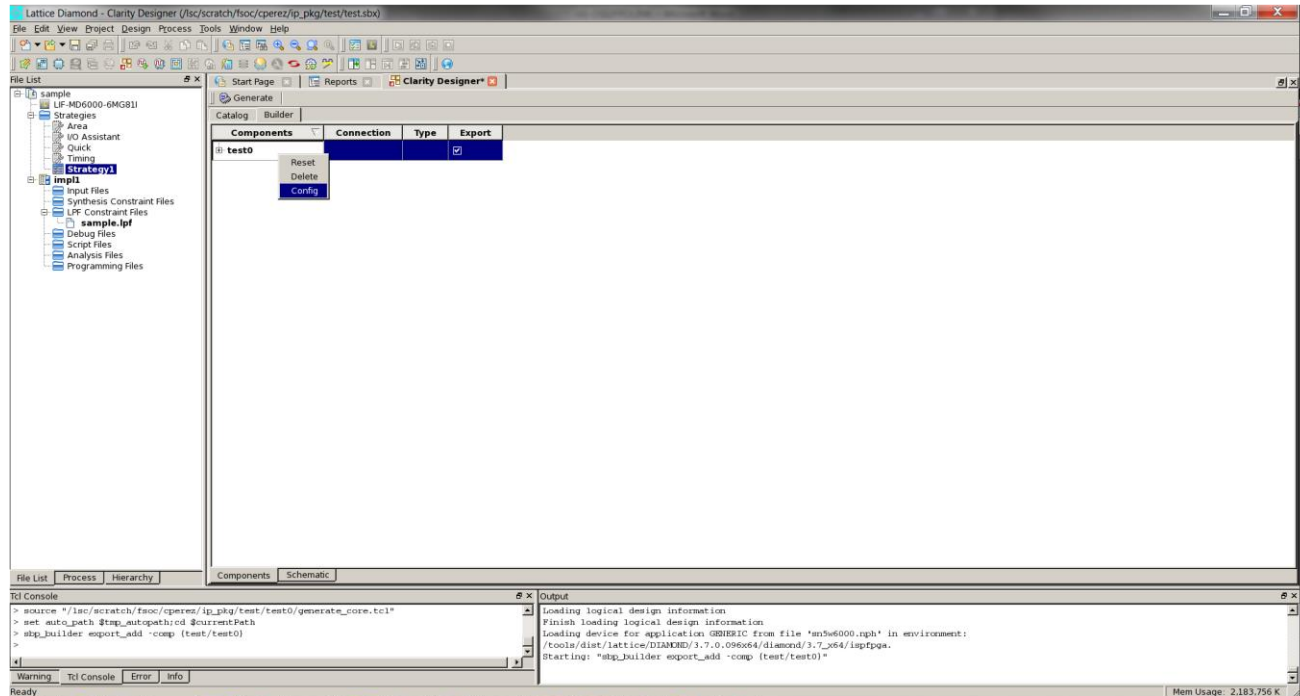

Figure 4.12. Regenerating IP in Clarity Designer
1. In the **Builder** tab, right-click the IP instance to be regenerated and select **Config** in the menu as shown in Figure 4.12.